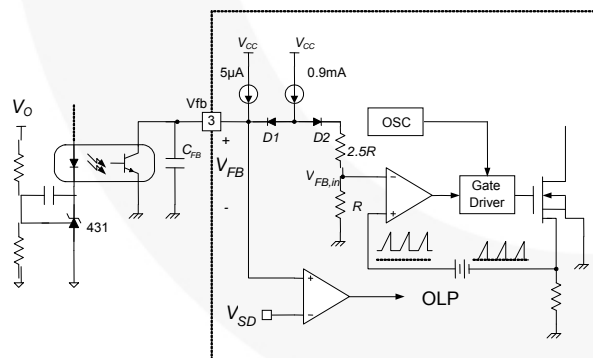

Figure 14. Pulse Width Modulation (PWM) Circuit
**2. Feedback Control:** The 700V FPS series employs Current Mode control, as shown in Figure 14. An optocoupler (such as the H11A817A) and shunt regulator (such as the KA431) are typically used to implement the feedback network. Comparing the feedback voltage with the voltage across the Rsense resistor of SenseFET, plus an offset voltage, makes it possible to control the switching duty cycle. When the regulator reference pin voltage exceeds the internal reference voltage of 2.5V; the optocoupler LED current increases, feedback voltage Vfb is pulled down, and the duty cycle is reduced. This typically occurs when the input voltage increases or the output load decreases.
**4.3 Over-Voltage Protection (OVP):** In the event of a malfunction in the secondary-side feedback circuit or an open feedback loop caused by a soldering defect, the current through the optocoupler transistor becomes almost zero (refer to Figure 14). Then,  $V_{FB}$  climbs up in a similar manner to the overload situation, forcing the preset maximum current to be supplied to the SMPS until the overload protection is activated. Because excess energy is provided to the output, the output voltage may exceed the rated voltage before the overload protection is activated, resulting in the breakdown of the devices in the secondary side. To prevent this situation, an Over-Voltage Protection (OVP) circuit is employed. In general,  $V_{CC}$  is proportional to the output voltage and the FPS uses  $V_{CC}$  instead of directly monitoring the output voltage. If  $V_{CC}$  exceeds 19V, the OVP circuit is activated, terminating switching. To avoid undesired activation of OVP during normal operation,  $V_{CC}$  should be designed to be below 19V.